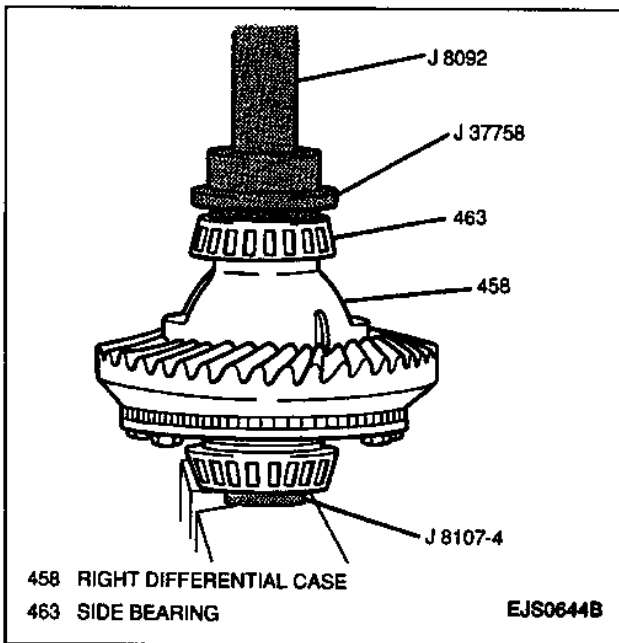

Figure 64—Installing Right Differential Side Bearing
- 7. Right differential side bearing on the right side of the differential case assembly using a J 37758 with a J 8092 (Figure 64). Place the differential case assembly on a hydraulic press and using a J 8107-4 for support. Then, using the J 37759 with the J 8092, place the right differential side bearing on the right differential case with the taper side up and slowly press the right differential side bearing onto the right differential case.